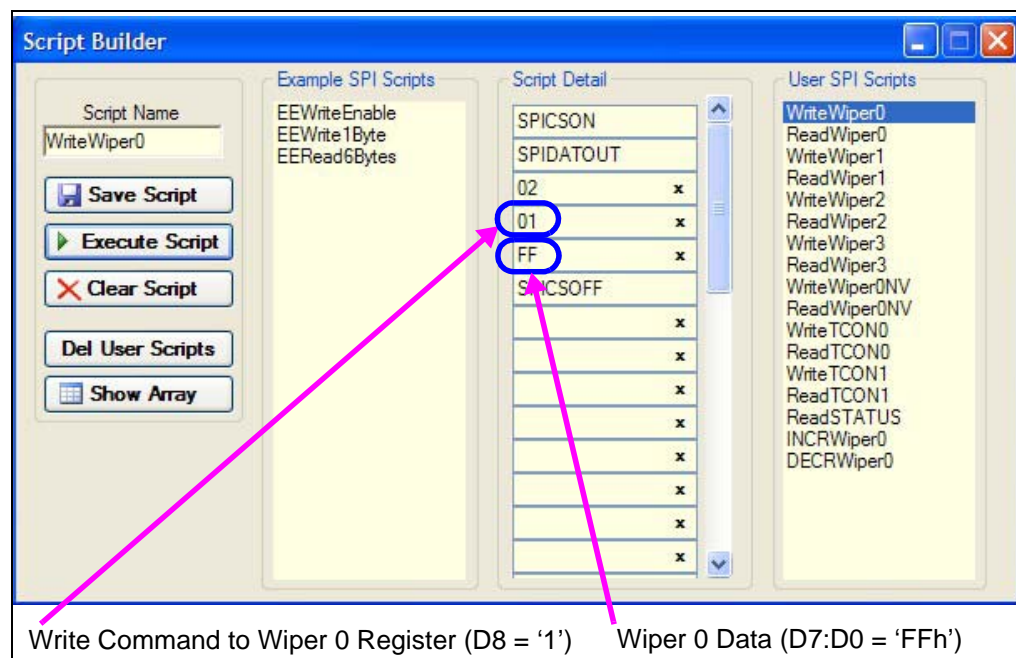

FIGURE 2-12: MCP43XX Write Wiper 0 Script File - Updating Wiper Value.
13. Double click on the “WriteWiper0” script in the “Example SPI Scripts” column. This loads the Script Detail column and modifies the Wiper 0 data to 1FFh (see Figure 2-12).